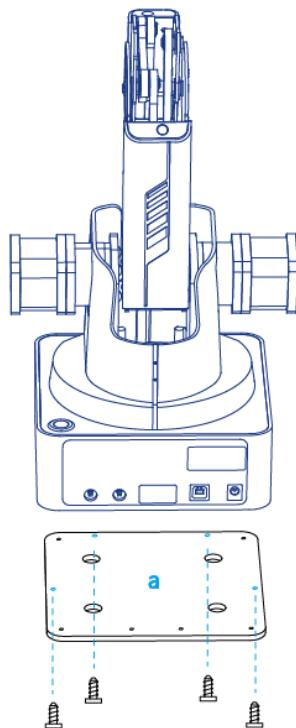

Figure 5.31 Fix plate a
**Step 1** Mount Dobot Magician on the plate a with four M3\*10 countersunk head cap screws (Make The counter bore of plate a outward), as shown in Figure 5.31.